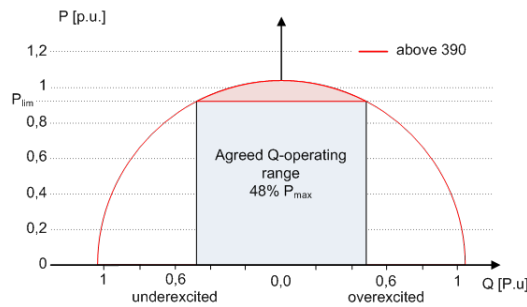

Fig. 64: P-Q operating range with limited active power ($Q_{max}=S_{max} \neq P_{max}$) for PV inverters
Some grid connection rules insist that the agreed reactive power be supplied from every operating point of the plant without a reduction in the actual active power. Considering the fact that all KACO TL3 inverters have a semi-circular(PV) full-circular(BI) P-Q operating range, a reduction in the active power is, however, required during operation at maximum active power because an apparent power reserve is not available. By adjusting P_{lim} the maximum active power can be restricted in order to establish an apparent power reserve and ensure that the agreed reactive power can be delivered from any active power operating point. The graphic [See figure 64 [▶ Page 77]] shows the appropriate P-Q operating range with a required example active power of 48% of the maximum apparent power of the plant or 43% of the maximum active power of the plant.